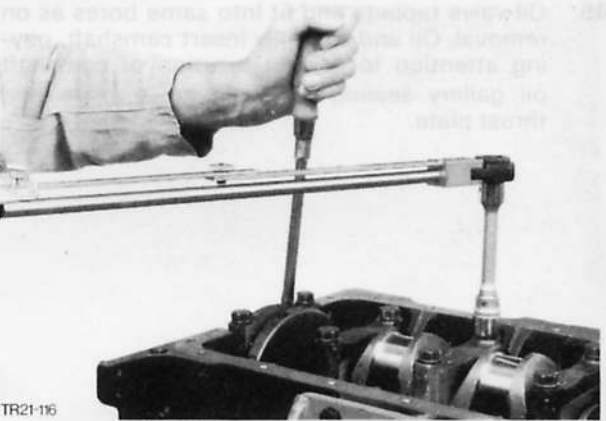

Fig. 68. Align thrust washers
- (b) Fit centre main bearing cap bolts finger-tight only. Press crankshaft first to rear against stop, then slowly and firmly against front stop and hold in position and torque bolts, Fig. 68. (This operation is necessary to ensure uniform seating of thrust washers.)